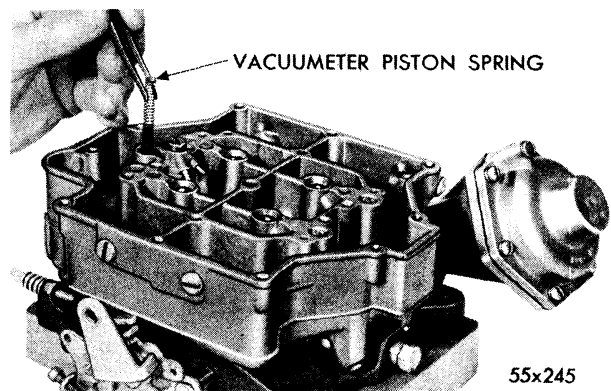

Fig. 40—Installing Vacuum Piston Spring in Cylinder
- (5) Install the pump inlet jet in position in the main body, then slide the vacuumer piston spring in the piston well. (See Fig. 40.)
- (6) Carefully lower the air horn down on the main body, guiding the accelerator pump